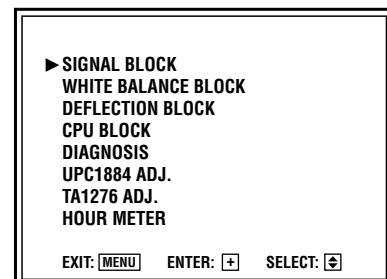

Fig. 3
7. Check that the initial values of the items in the service menu are correct (Fig. 3).